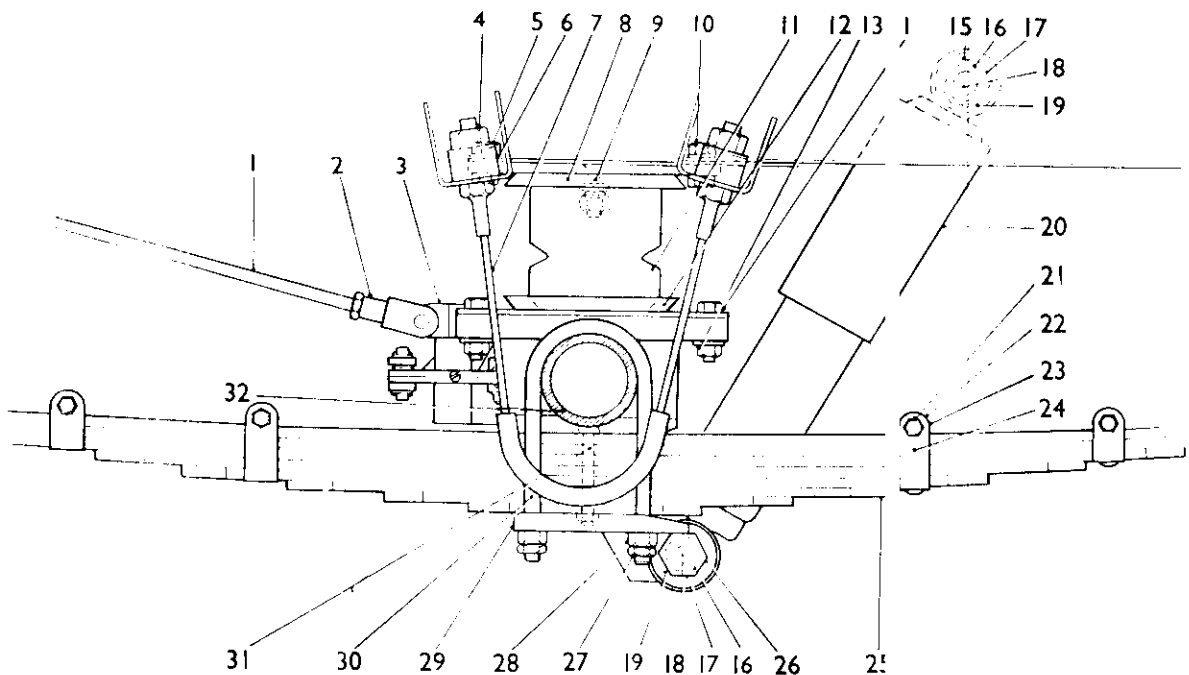

Fig.4. Suspension
- c. Remove the telescopic shock absorbers (Fig.4 (20)) and axle check cables (7).
- d. Disconnect the brake linkage by removing the pin from the knuckle joint (3) and rear rod fork (2).
- e. Remove the axle 'U' bolts (30) and clamp plates (29) and, whilst supporting the weight of the axle (32) and springs (25), remove the bottom rear shackle pin from each spring.
- g. If due to damage or deterioration the rubber springs (11) has to be removed, it must be detached from the chassis by removing the two nut washers and bolts (10) in the spring plate (8). The rubber spring may then be separated from the plate by removing the single central counter sunk headed bolt (9) and nyloc nut.
32. Clean and examine all parts for wear and damage. See that the rubber springs, the check cable dampers (6) and the rubber bonded spring bushes are in good condition, the spring leaves are not broken or 'stepped', and all threads are undamaged. Examine also the brake linkage mounted on the axle beam. (Refer to paragraph 25).